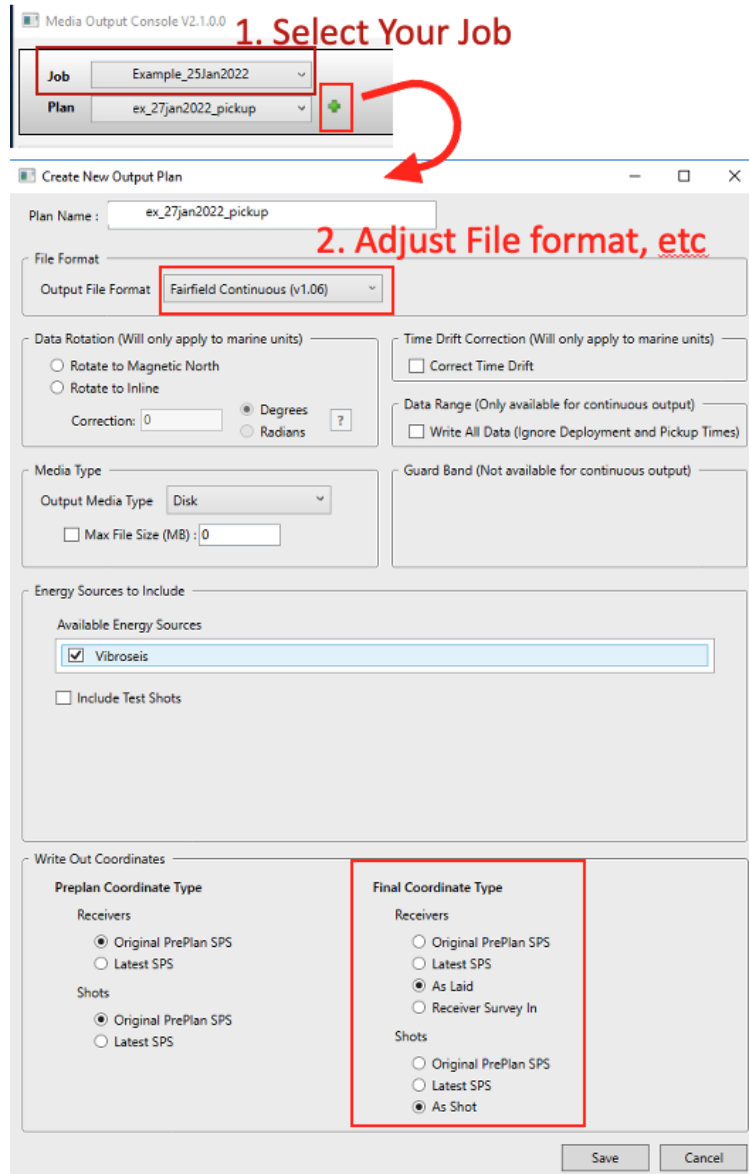

Figure 4-8 Media Output Console initial setup.
10. Select your current job from the drop-down menu and click on the green plus sign (see Fig 4-8).
11. Name your plan. Select Output File Format: Fairfield Continuous. Adjust other parameters as preferred, and then hit 'Save.' See Figure 4-8 for suggested final settings of the Create New Output Plan pop-up window.